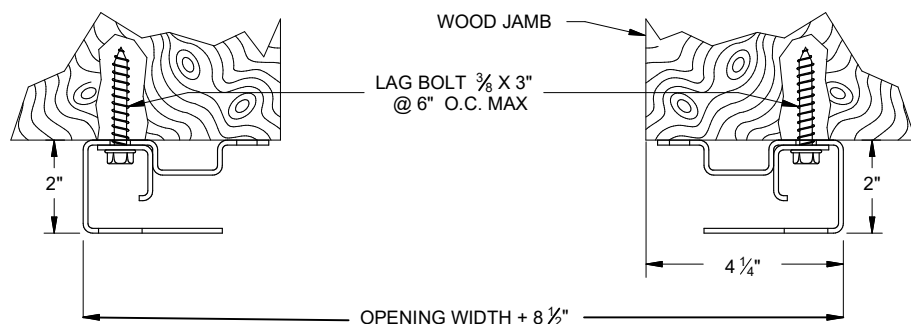

FIGURE 10:
- **WOOD JAMBS** $\frac{3}{8}$ X 3" Lag Screw at inside of guide. SEE PAGE 9 FIGURE 10.